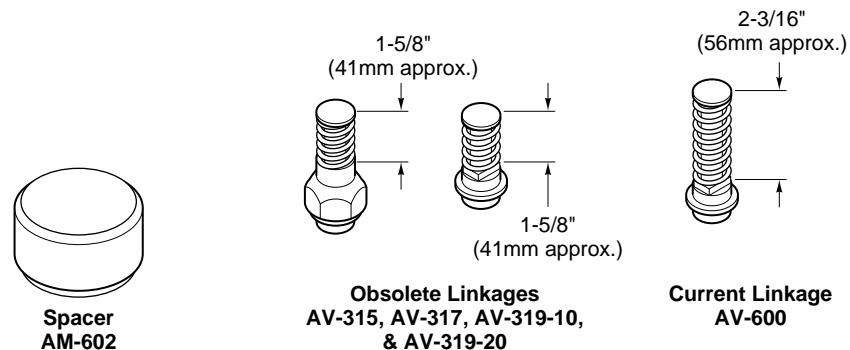
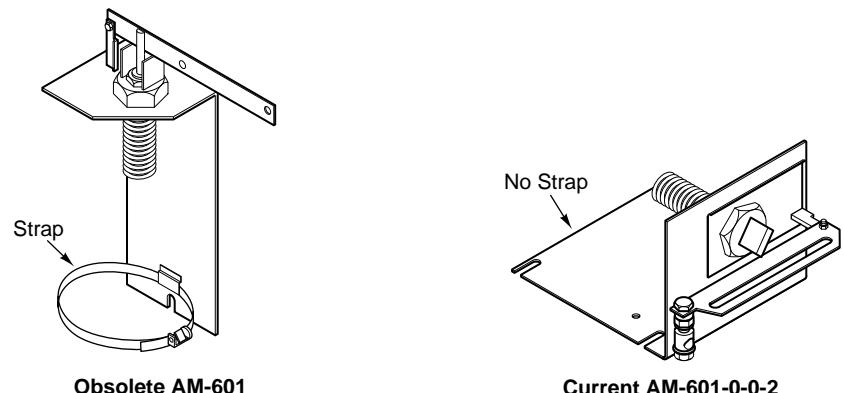

Figure-19 Spacer and Current and Obsolete Valve Linkages.
Figure-20 Current and Obsolete Damper Linkages.
2. The AM-602 spacer is used when current actuators are installed on old linkages (refer to Figure-19 and Figure-20 ).